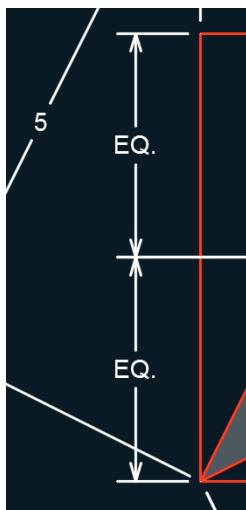

FIGURE 11.22 Editing dimension text content with DIMEDIT
5. Type **EQ.** (for Equal), and then press Ctrl+Enter to end text-entry mode. Select both vertical linear dimensions having values of 2.236, and press Enter. Figure 11.22 shows the result.